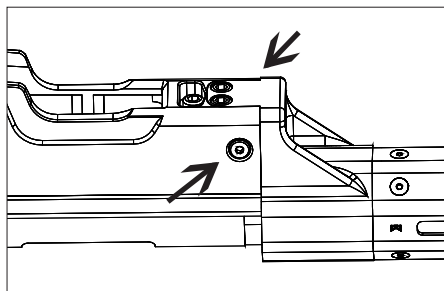

Figure 39 - Hand Guard Screws
5. Next remove the two hand guard lock screws located on both the left and right side of the Center Chassis using a 1/8" hex wrench. Place the screws securely to the side. (Fig 39)